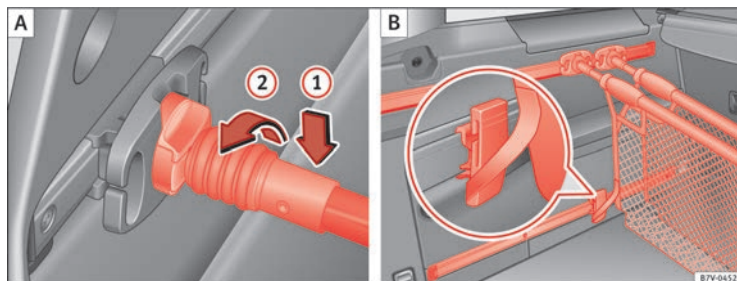

Fig. 97 Hook the baggage net (A) and use it as a bag (B).
Place the attachment rod on the baggage net support ⇒ fig. 97 ① and rotate 90° to the left ②. The red mark on the attachment rod should not be visible ⇒ **⚠**.